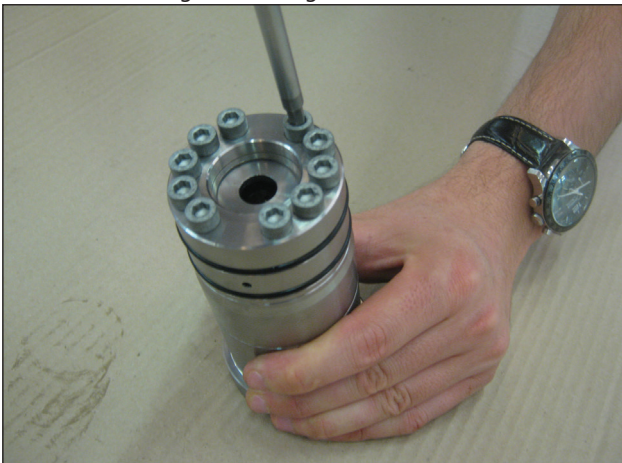

Fig. 124
- Remove the M8x100 screws that fix the LP seals supports, HP seals support and liner as shown in Fig. 124, and proceed to the separation of all the components as indicated in Fig. 125 and Fig. 125/a.